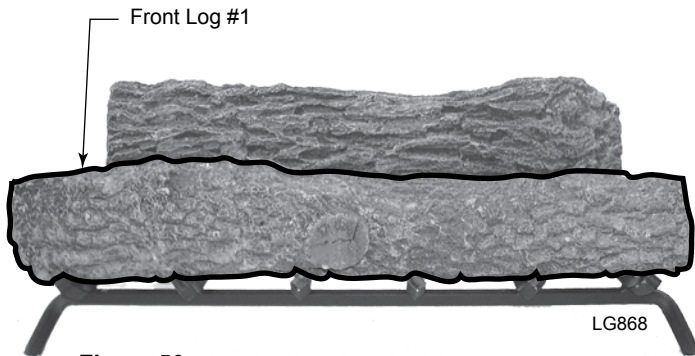

Figure 50 - Place Front Log
2. Place Front Log #1 on front of grate. *Figure 50*